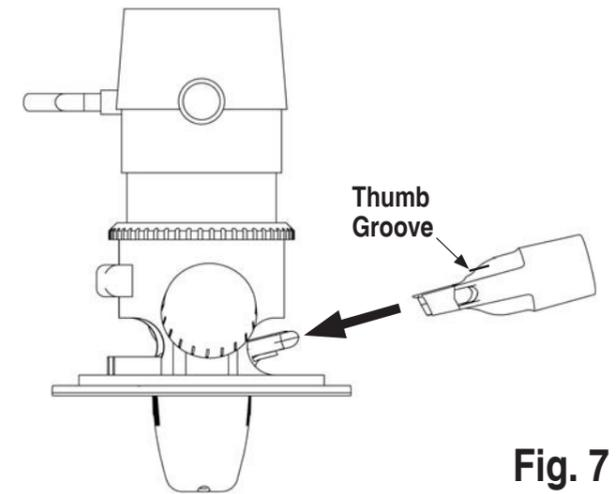

Fig. 7
8. With the hose attached, clip the cuff onto the dome. The thumb groove indicates which side is the top (Fig. 7). The connection is a typical side-release clip, making the cuff easily detachable from the dome.